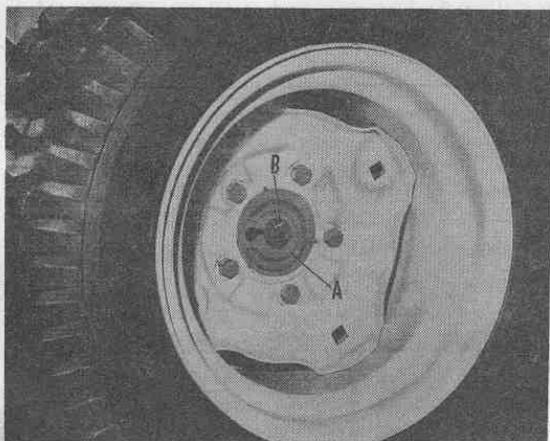

FIG. 19
1. For greater stability on hillsides, move both rear tractor wheels so that wheel hubs (A), are flush with ends of axle (B). Refer to Fig. 19.